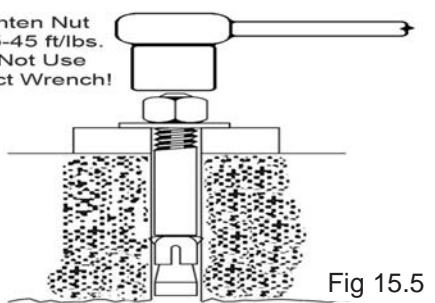

Fig 15.5
6. After any necessary shims are installed, tighten each nut to 35-45 ft./lbs. IMPORTANT - If anchor bolts do hold when torqued to required amount, concrete must be replaced. Saw cut and remove 24" x 24" square area each column base then re-pour with reinforced 2500 concrete to a depth of six inches minimum, keying new concrete under existing floor. (See Fig. 15.5)